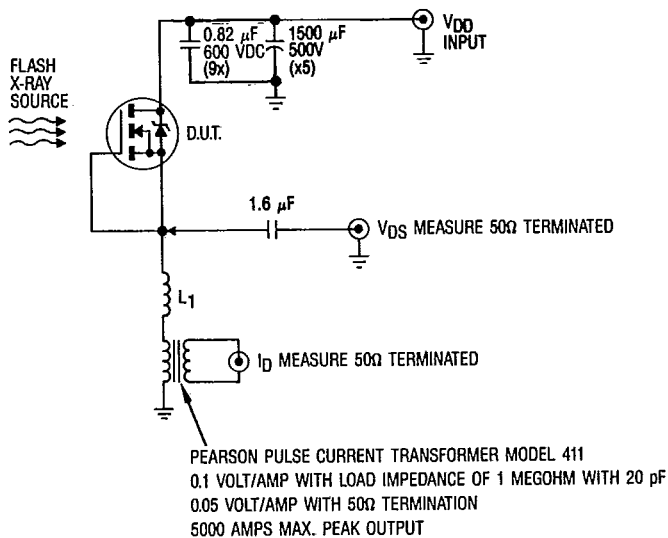

Fig. 12 — High Dose Rate (Gamma Dot)
High dose rate (gamma-dot) testing is done using a dose rate set at $1.5-2.0 \times 10^{12}$ rads (Si)/sec. The device is exposed to this rate with its full rated breakdown voltage applied. Photocurrent and transient voltage waveforms are shown in Figure 10. With the rated breakdown voltage applied the device will survive the maximum rated di/dt. The device performance is presented in table 2. The test circuit used for this test is shown in figure 12.
⑧ This test is performed using a flash x-ray source operated in the e-beam mode (energy ~2.5 Mev). See figure 12.
⑨ Study sponsored by NASA
⑩ Study sponsored by Rockwell International
⑪ To be determined